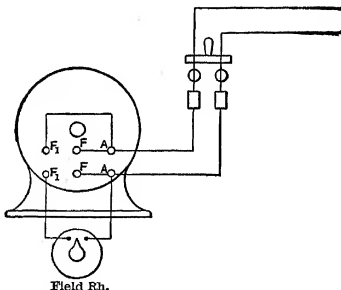

FIG. 243. Connections of compound dynamo:
**Prob. 40-9.** Connect the generator in Fig. 243 as a simple shunt generator.
**Prob. 38-9.** In the compound generator of Fig. 243,  $FF$  represent the shunt field terminals, and  $F_1F_1$  the series field terminals.